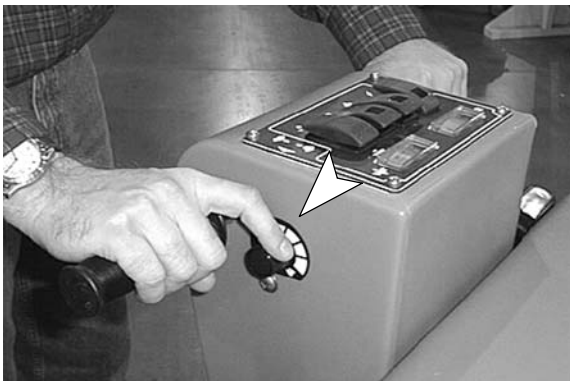

FIG. 17
6. Before starting, turn speed control knob to slowest setting (Figure 17).
7. Begin scrubbing by rotating control grips forward. Gradually increase your speed by turning speed control knob forward (Figure 17).